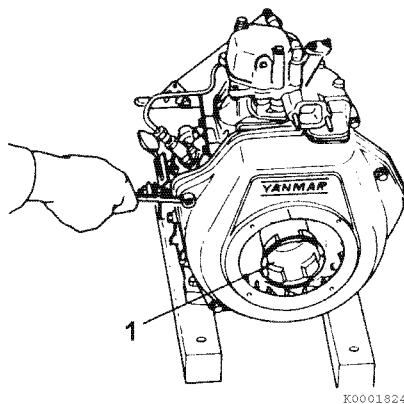

Figure 9-13
3. Remove the cooling fan housing (Figure 9-13).
4. Remove the starter pulley (1, Figure 9-13).